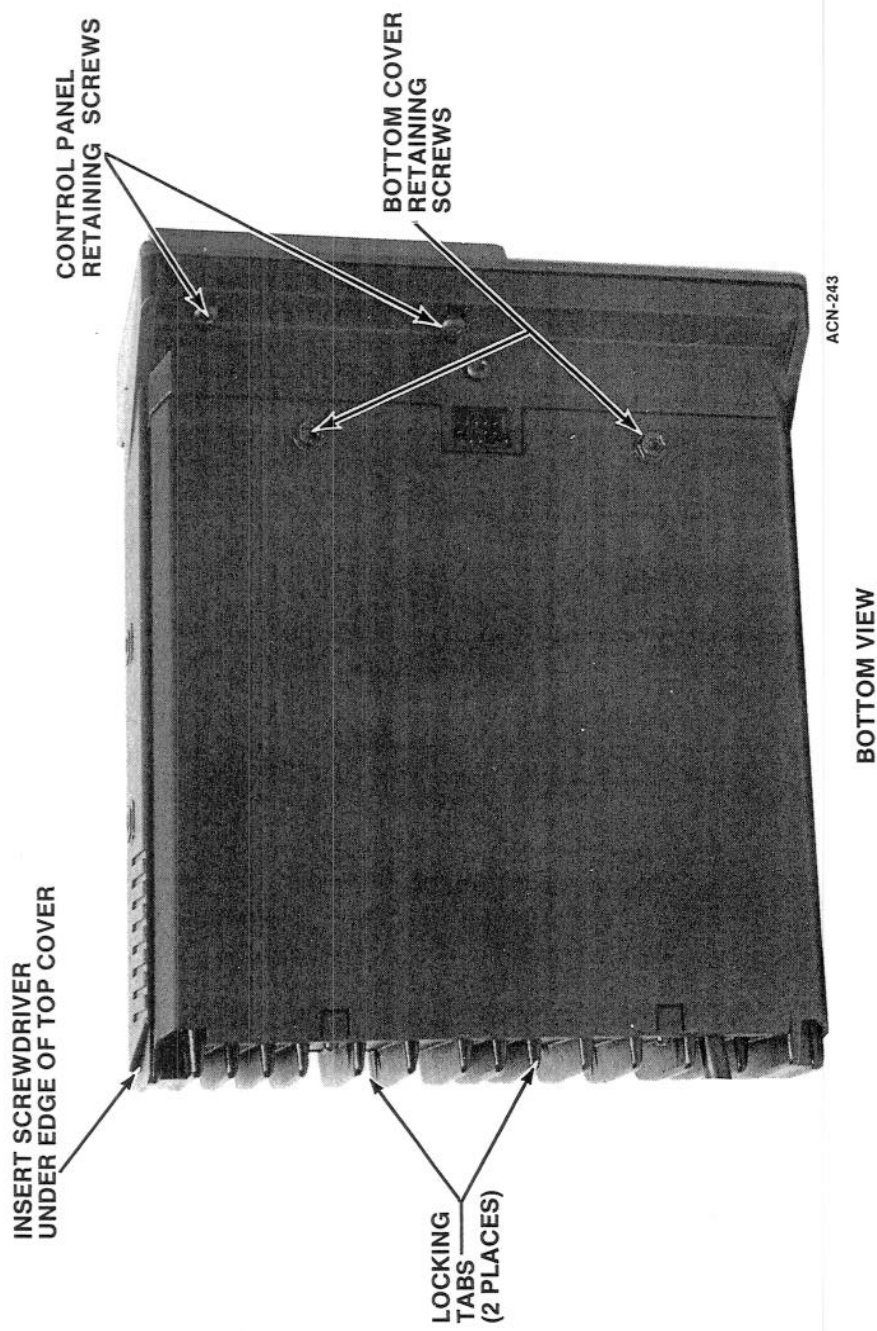

FIGURE 9 - BOTTOM VIEW
1. Remove the bottom cover of the radio by removing the two bottom cover retaining screws. Refer to Figure 9.
3. Before replacing the bottom cover of the radio, unplug the internal speaker from A5 J904 on the System Board. Refer to Figure 9.